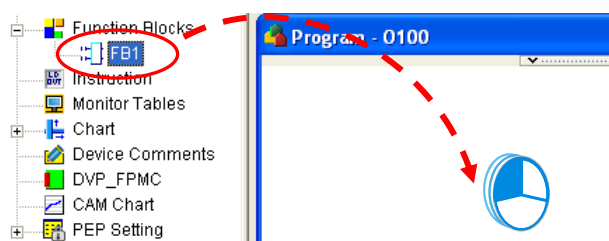

Figure 12-29 Dragging a function block definition
- (1) The users have to press the left mouse button while the mouse cursor hovers over a function block definition. They have to move the mouse cursor to a position in the program editing area while holding the left mouse button down. The **Add Symbol** window will appear after the users release the left mouse button. Please see figure 12-29.